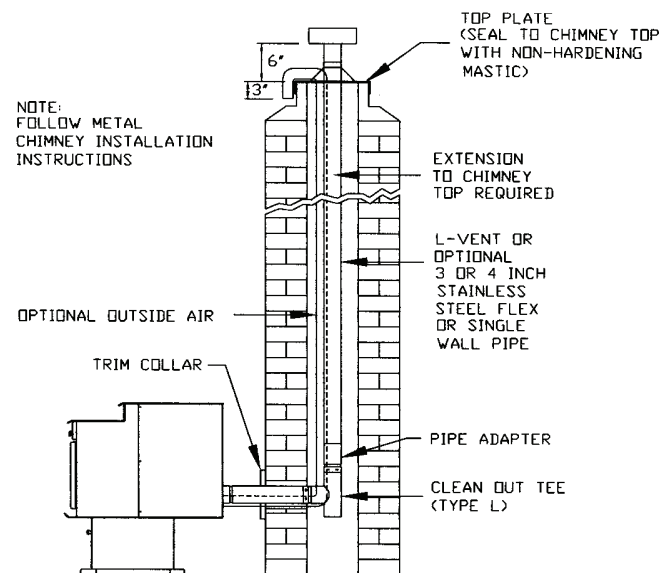

**FIGURE 11**
3. Install a blanking plate and the chimney pipe, and if used the outside air pipe, as shown in Figure 11.